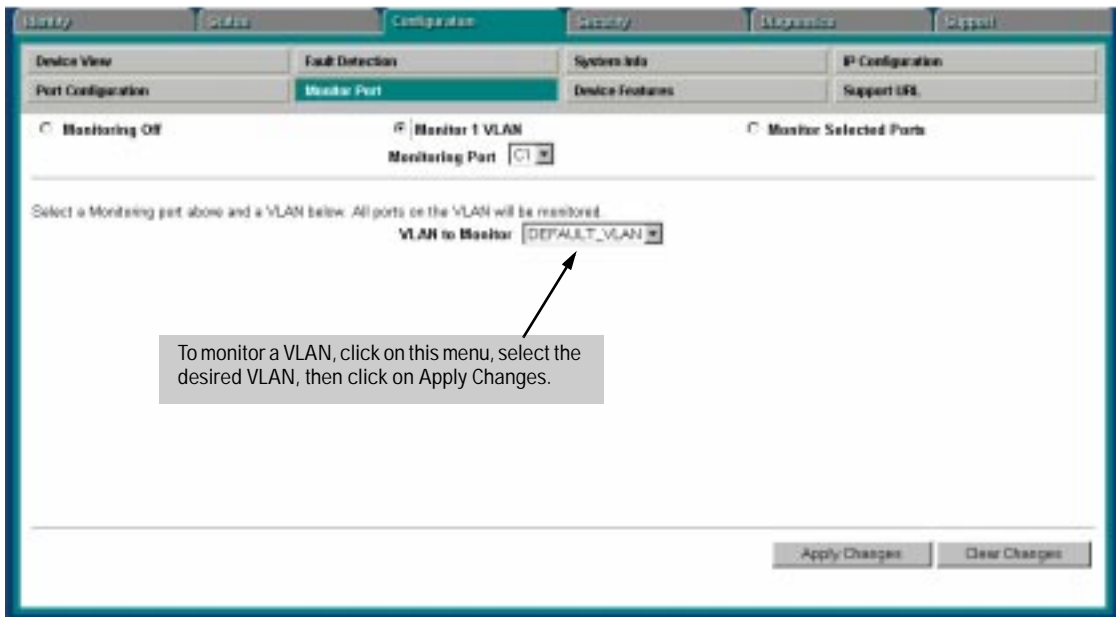

Figure 6-15. Selecting a VLAN To Monitor
- If you want to monitor VLAN traffic, click on the **Monitor 1 VLAN** button. (See figure 6-15, below.)